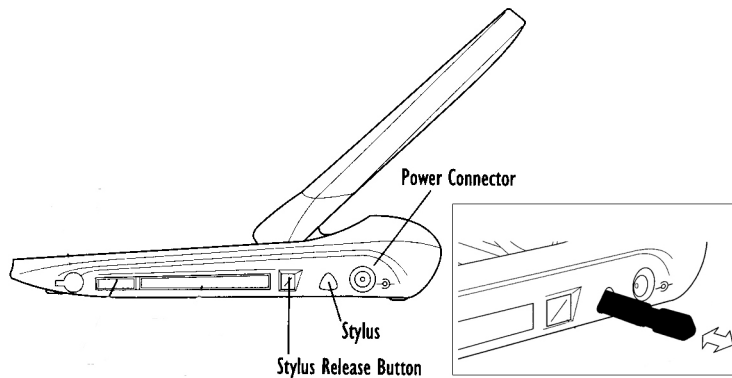

Figure 5: Removing the stylus
1. Push the square stylus eject button on the right side of the programmer base. The stylus is ejected from the holder (Figure 5).